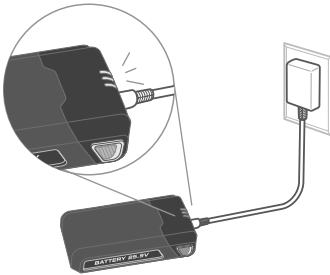

Figure 2.5
2. Insert the charger into the charging port on the battery [Figure 2.5].